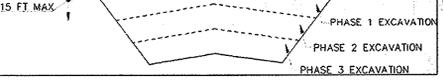

Figure 1: Incremental Stabilization - Cut
2. Construction sequence example (Refer to Figure 1):